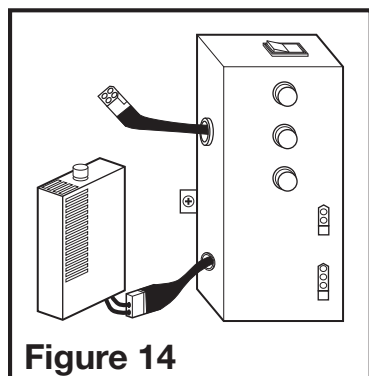

Figure 14
- 3c. **HUMIDITY SENSING MODELS:** Plug the fans 2 pin and 3 pin quick connect motor cords into the corresponding receptacle located on the wire compartment cover. Connect the two pin connector from the humidistat compartment to the two pin connector from the side of the wire compartment cover. These cords only fit one way into the receptacles (**Figure 14**).